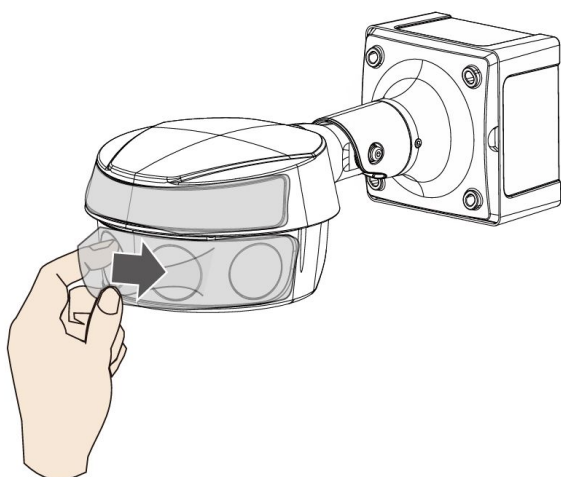

Figure 1-6
Step 6 Remove lens protective film. See Figure 1-6.